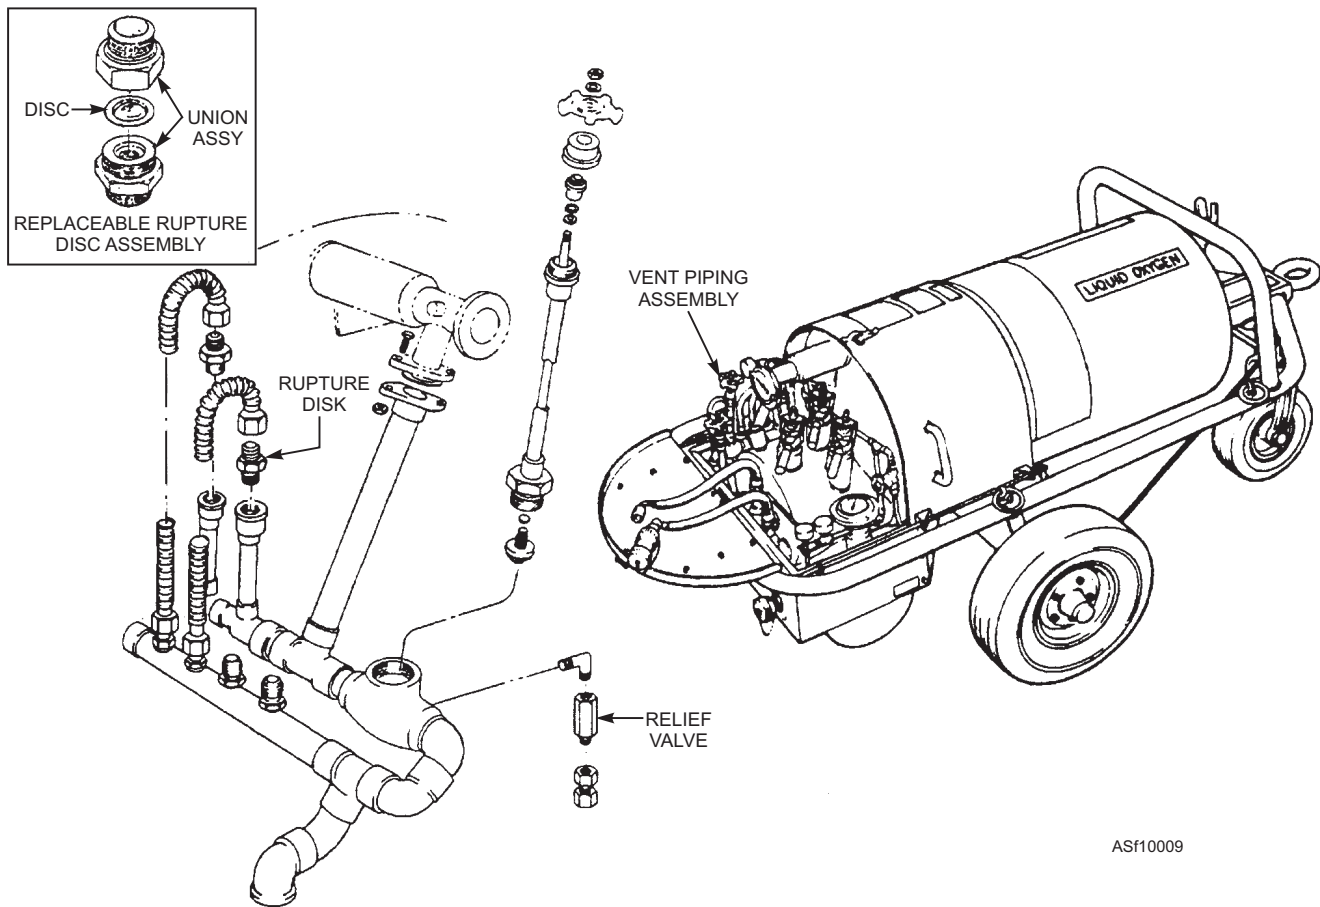

Figure 10-9.—Relief valve and rupture disc.
RELIEF VALVES AND RUPTURE DISCS.—Relief valves (RV) and rupture discs (SD), as shown in figure 10-9, are safety devices that protect the system from excessive internal pressure that could destroy the LOX cart tanks and plumbing system. More important, they also protect the operator and technician (you).